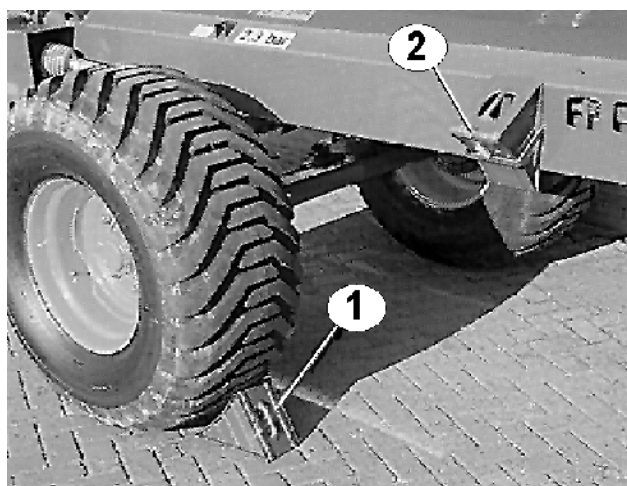

Fig. 21
- Before the **ZG-B** is uncoupled, the two chocks (Fig. 21/1) must be applied to ensure that the machine cannot roll away. When the spreader is in transit, the chocks (Fig. 21/2) are placed in the holders on the main frame and held in place by spring clips.